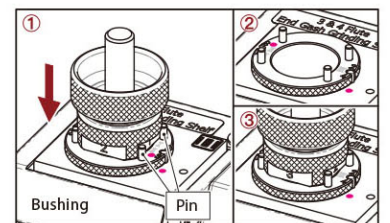

Fig. 10-2
2. 4 Flute End Gash Grinding (II) (Fig. 10-2)
- ① Insert the chuck set into the bushing on the Shelf (II), align Slot No.1 to the two pins where marked as No.(1 · 3), push the chuck set gently until the grinding noise stops. Turn the chuck set to grind the Slot No.3 in the same way, then take the chuck set out.
- ② Turn the bushing to No.(2 · 4), align No.(2 · 4) to the pin on the shelf, then insert it to the end.
- ③ Insert the chuck set into the bushing, align Slot No.2 to the two pins where marked as No.(2 · 4), push the chuck set gently until the grinding noise stops. Turn the chuck set to grind the Slot No.4 in the same way.